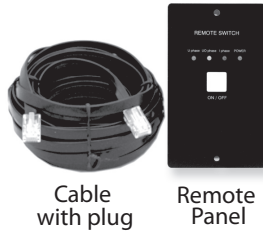

Fig 7.4 Remote Control Panel Model No. 900-RC
An optional wired Remote Control Panel Model No. 900-RC (Fig 7.4 above) can be ordered. It comes with 10 meters of RJ-45, 8P8C Modular, Straight cable . It is plugged into the Remote Control Jack (6). The Remote Control Panel can be used to switch ON / switch OFF the charger and also monitor the charging status of the charger from a remote location. ***Please read the manual for the optional Remote Control Panel 900-RC for related indications.***